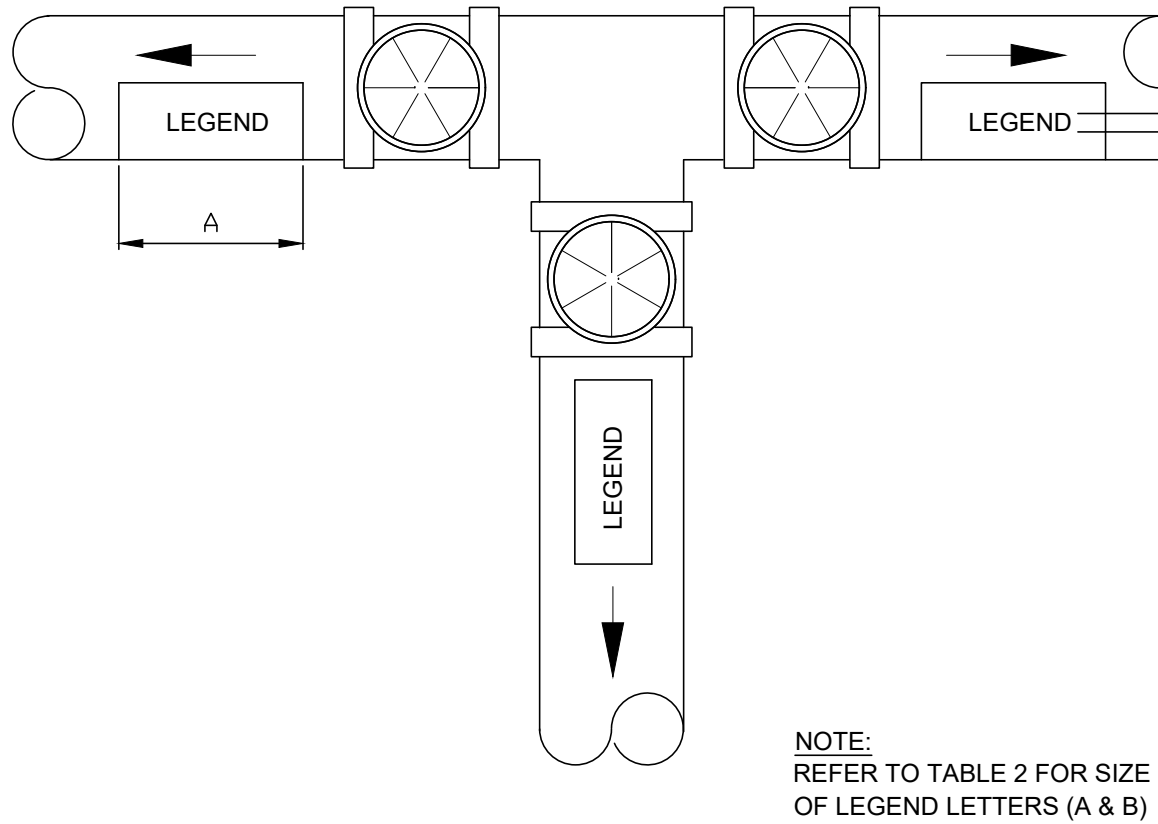

FIGURE 3: TYPICAL LEGEND LABELING DETAIL
- ALL ABOVE GRADE PIPING SHALL BE IDENTIFIED WITH LEGENDS APPLIED TO PIPING AT EACH PASSAGE THROUGH A WALL, CEILING OR FLOOR, ADJACENT TO EACH VALVE, AT EACH CHANGE IN DIRECTION, AND AT NOT MORE THAN 50 FEET SPACING ON STRAIGHT PIPE RUNS (SEE FIGURE 3). SEE ALSO THE SIGNS AND TRAFFIC SECTION OF THE SAFETY AND HEALTH EQUIPMENT CATALOG.